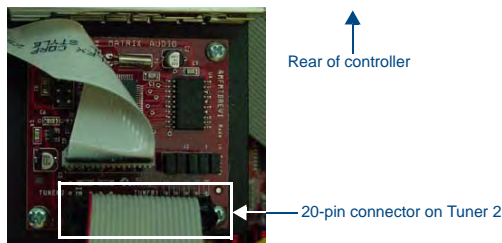

FIG. 12 Tuner 2 Module Connection
5. Connect the "Slot 1" connector on the ribbon cable to the Tuner 2 module (FIG. 12).